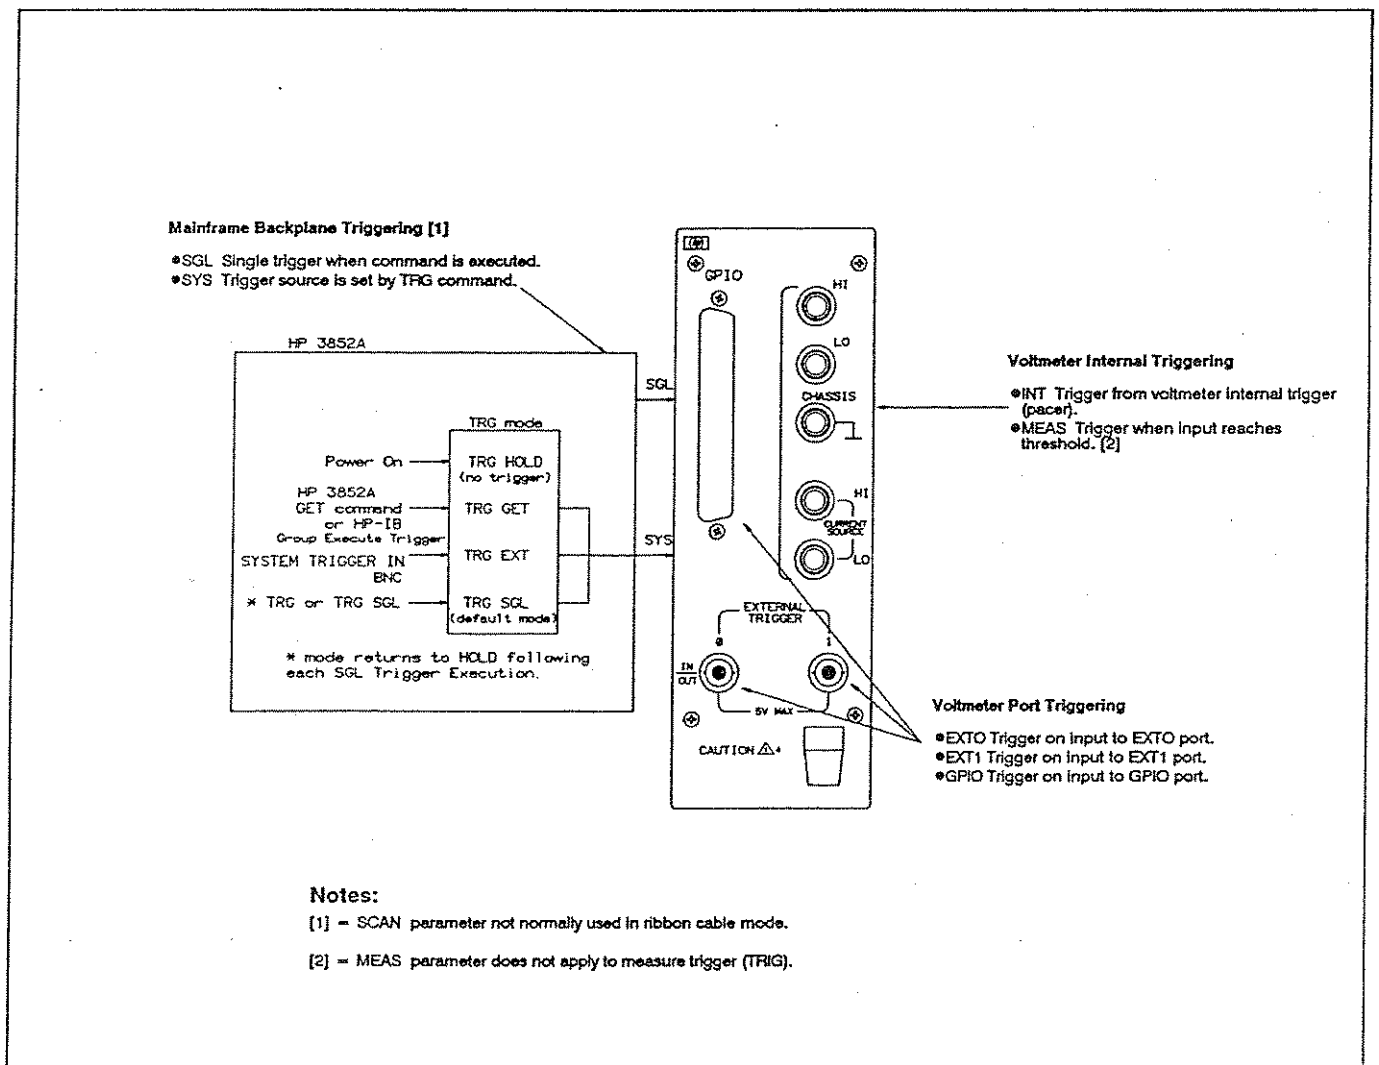

Figure 5-11. Voltmeter Trigger Sources
**Voltmeter Trigger Sources** Figure 5-11 summarizes the parameters for the scan trigger source (SCTRIG), the measure trigger source (TRIG), and the stop trigger source (STTRIG) normally used for ribbon cable operation. There are three types of trigger sources: mainframe backplane triggers (SGL and SYS), voltmeter internal triggers (INT and MEAS), and voltmeter port triggers (EXT0, EXT1, and GPIO).
SCTRIG SYS is used along with the TRG (mainframe) command. As shown in Figure 5-11, TRG has four sources/modes: HOLD, GET, EXT, and SGL. Note that SCTRIG SYS must be set for the voltmeter to accept a scan trigger from the TRG source. Refer to the HP 3852A Mainframe Configuration and Programming Manual for details on the TRG command.